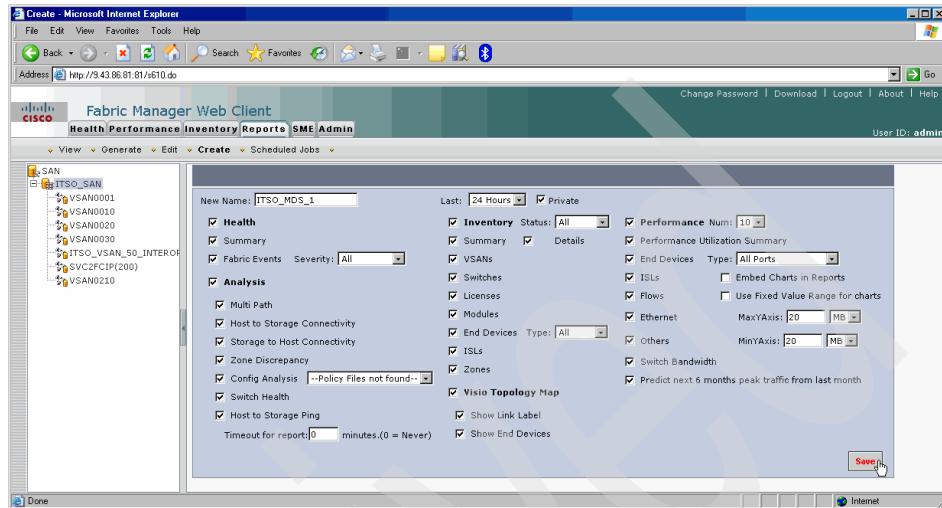

Figure 4-36 Create a customer report in the Cisco Fabric Manager Web Client
1. Click the **Reports** tab, then the **Create** button, as shown in Figure 4-36.